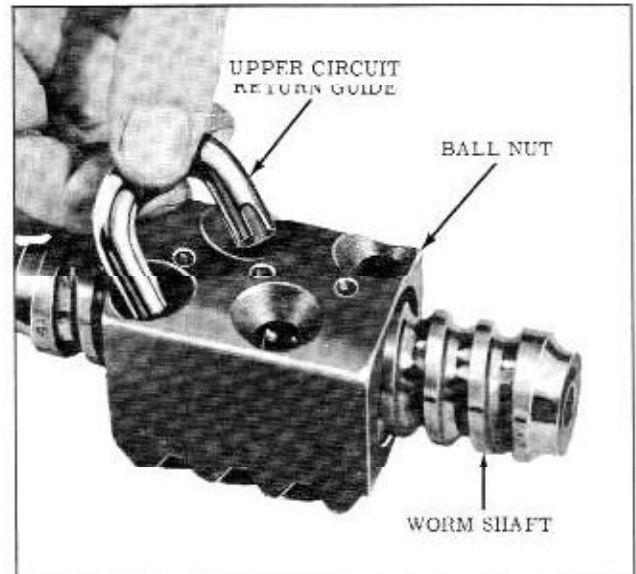

Fig. 4-42 Installing Ball Guides
5. Push the guide into the guide holes of the ball nut (Fig. 4-42). This completes one circuit of balls. If the guide does not push all the way down easily, rotate worm shaft back and forth slightly until guide can be pushed into position.